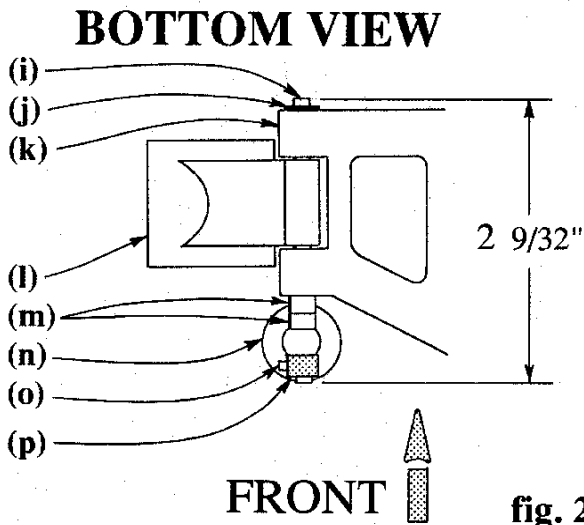

fig. 2
STEP 5 Cut the two long 1/8" diameter pins (i) to 2 9/32". Slide them through each lower "A" arm (k) and hub carrier (l) (fig. 2). Then slide on the small plastic spacers (m) (two to each side), then the shocks (n). Slide on, then fasten, the locking collars (p) with the set screws (o). Use your existing snap ring clips (j) to fasten the other ends.
STEP 2 At point A of fig. 2 you must change the small bend in the spring (e) after measuring .900" (23mm) from the long end. Straighten out one spring and bend it as shown to the same angle. Now bend the second spring. The location of this bend is very important; it determines how freely the locking pin (g) (fig. 3) will move.
The locking pin (g) should now move up and down quite freely when you move the spring wire (e) up and down. If it does not move freely, it is because either your bend of point A in fig. 2 is in the wrong place or the bend itself is the wrong angle. Remove the insert and bend the wire again, if necessary.